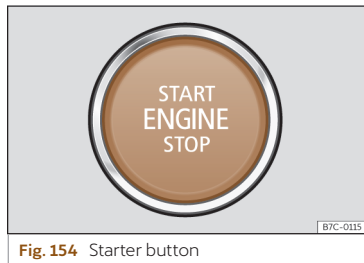

Fig. 154 Starter button
When entering the vehicle, the start button »» Fig. 154 flashes to draw attention to it.
- Press the starter button »» Fig. 154; do not press the accelerator. There needs to be a valid key inside the vehicle for the engine to start. After starting the engine, the lighting of the  button remains fixed indicating that the engine is running¹⁾.
- Briefly press the start-up button >>> **Fig. 154**.